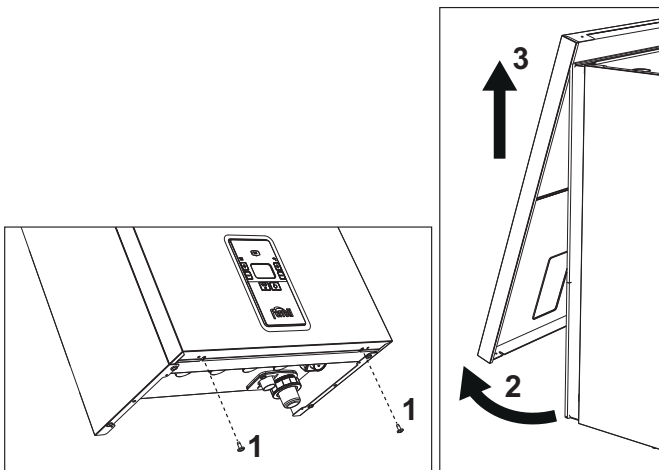

fig. 32- Front panel opening
1. Undo the screws "1" (see fig. 32).